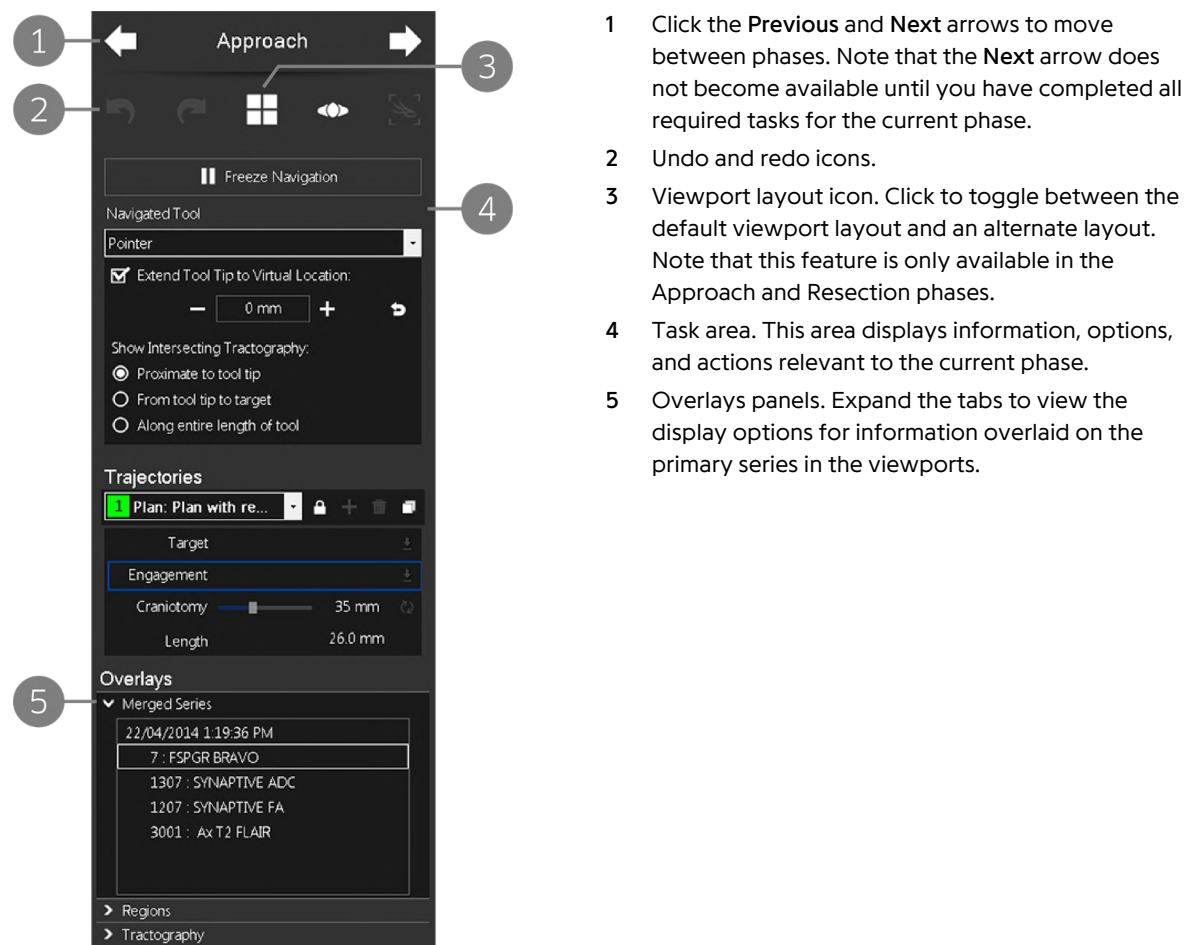

Figure 17 Phase panel in the Approach phase
The viewports display one or more views of your image series. By default, the viewports display views appropriate to the tasks performed in each workflow phase. In the Approach and Resection phases, you can toggle between two viewport arrangements (see item 3 in Figure 17 on page 37).